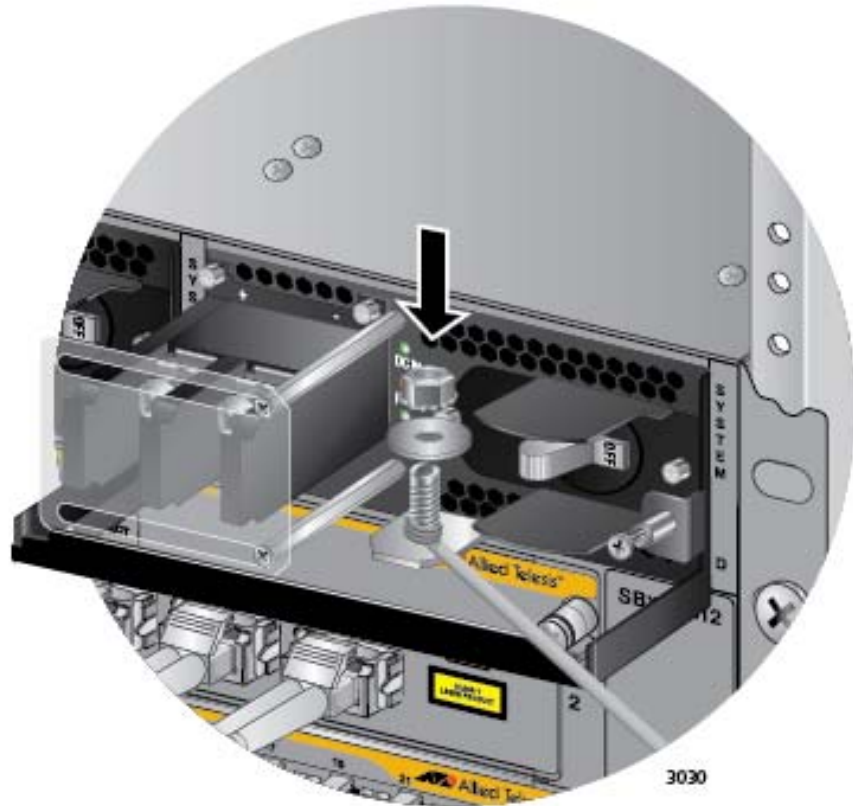

Figure 127. Securing the Bare Grounding Wire to the Grounding Post
- Secure the wire with the nut and washer removed in step 2, and an 8 mm wrench, as shown in Figure 127.